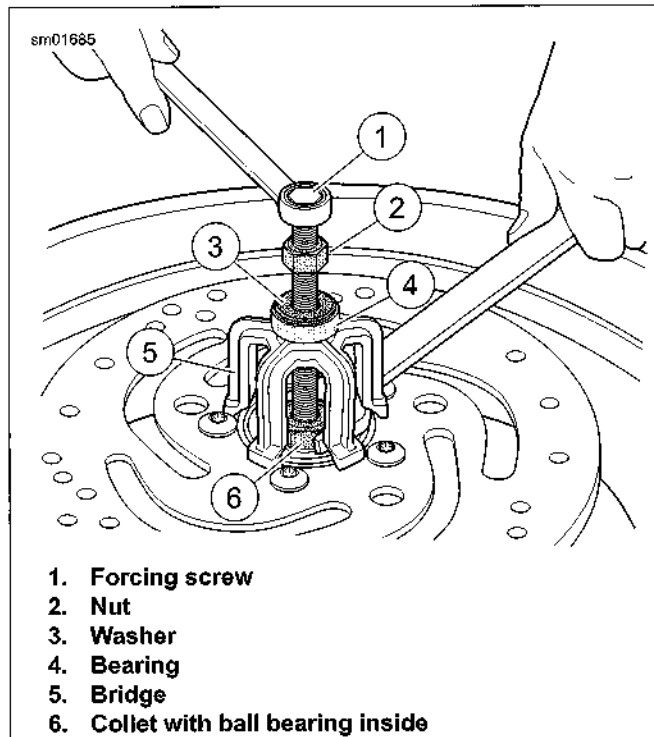
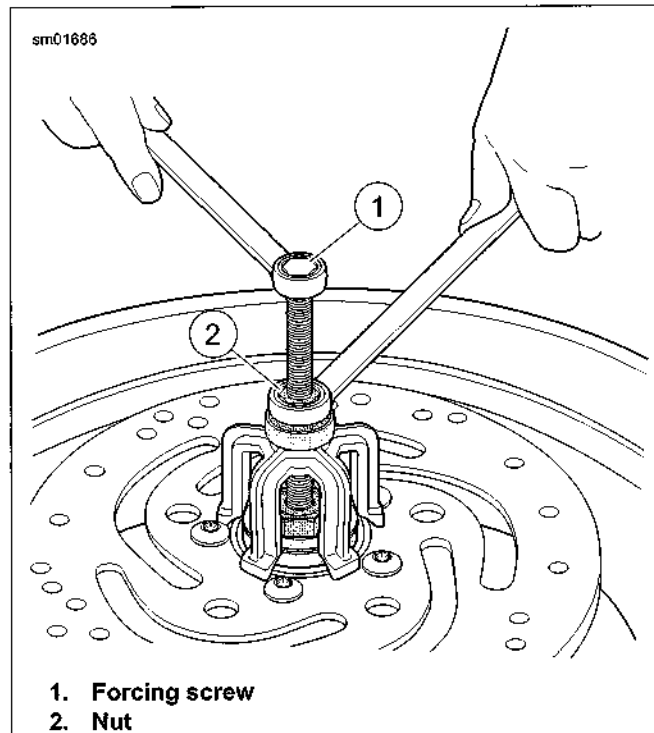

Figure 2-21. Wheel Bearing Removal Tool
Figure 2-22. Removing Bearing
3. See Figure 2-21. Obtain WHEEL BEARING INSTALLER/REMOVER (Part No. HD-44060-C) and assemble.
- a. Sparingly apply graphite lubricant forcing screw (1) for prolonged service life and smooth operation.
- b. Install nut (2), washer (3) and bearing (4) on screw. Insert assembly through hole in bridge (5).
- c. Drop ball bearing inside collet (6). Fasten collet and ball bearing to forcing screw.
5. See Figure 2-22. When expanded collet has gripped bearing edges, hold end of forcing screw (1) and turn the nut (2) to remove bearing from wheel.